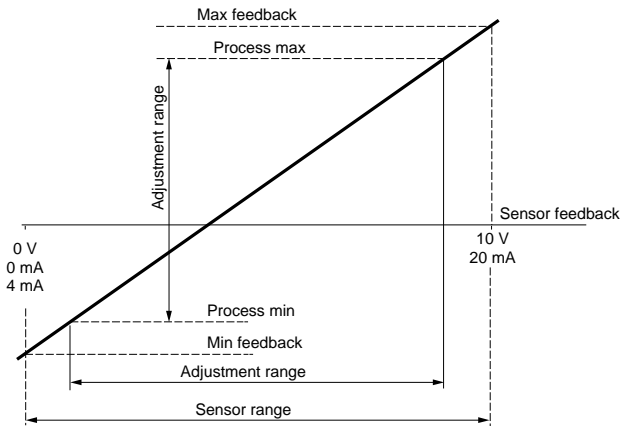

Figure 12: Sensor Feedback Range
- *Min. feedback* and *max. feedback* correspond to the sensor feedback range in customer units, as shown in Figure 12 on page 28.